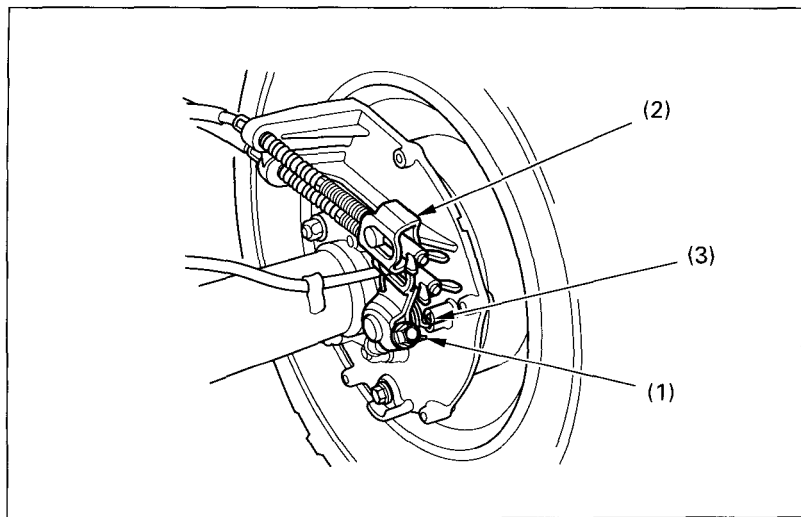

Fig. 4-32
When the brake is applied, an arrow (1) attached to the brake arm (2) moves toward a reference mark (3) on the brake panel (see Fig. 4-32).